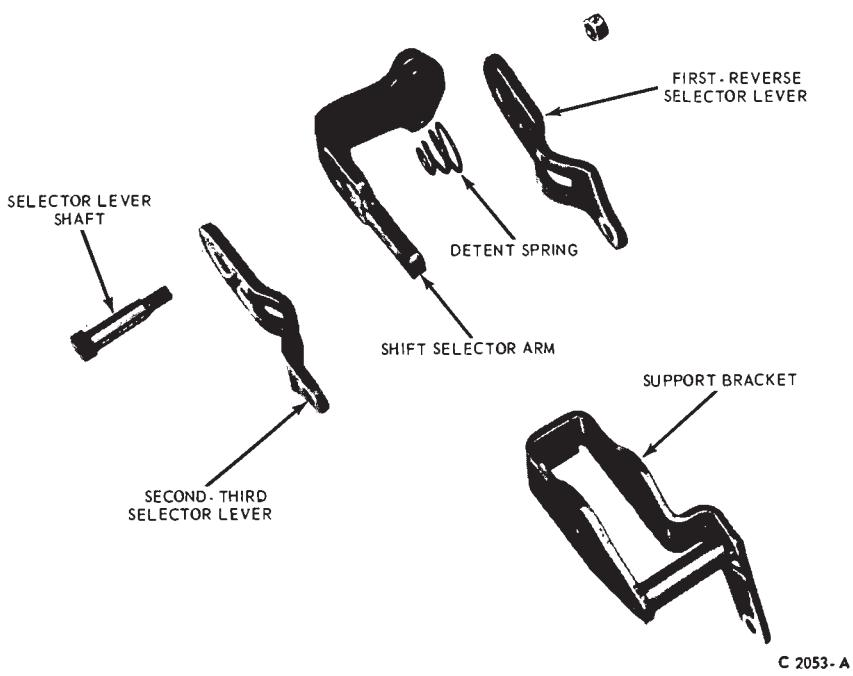

FIG. 22—Gear Shift Control Assembly Disassembled—3-Speed
25. Remove the next snap ring from the output shaft. The first and reverse synchronizer hub is a press fit on the output shaft. To eliminate the possibility of damaging the synchronizer assembly, remove the synchronizer hub using an arbor press as shown in Fig. 22. **Do not attempt to remove or install the hub by hammering or prying.**
6. Remove the nut from the selector lever shaft and remove the shaft from the assembly. Then, lift the selector arm and selector levers out of the support bracket. Do not lose the detent spring located between the first-reverse selector lever and the selector arm (Fig. 22).